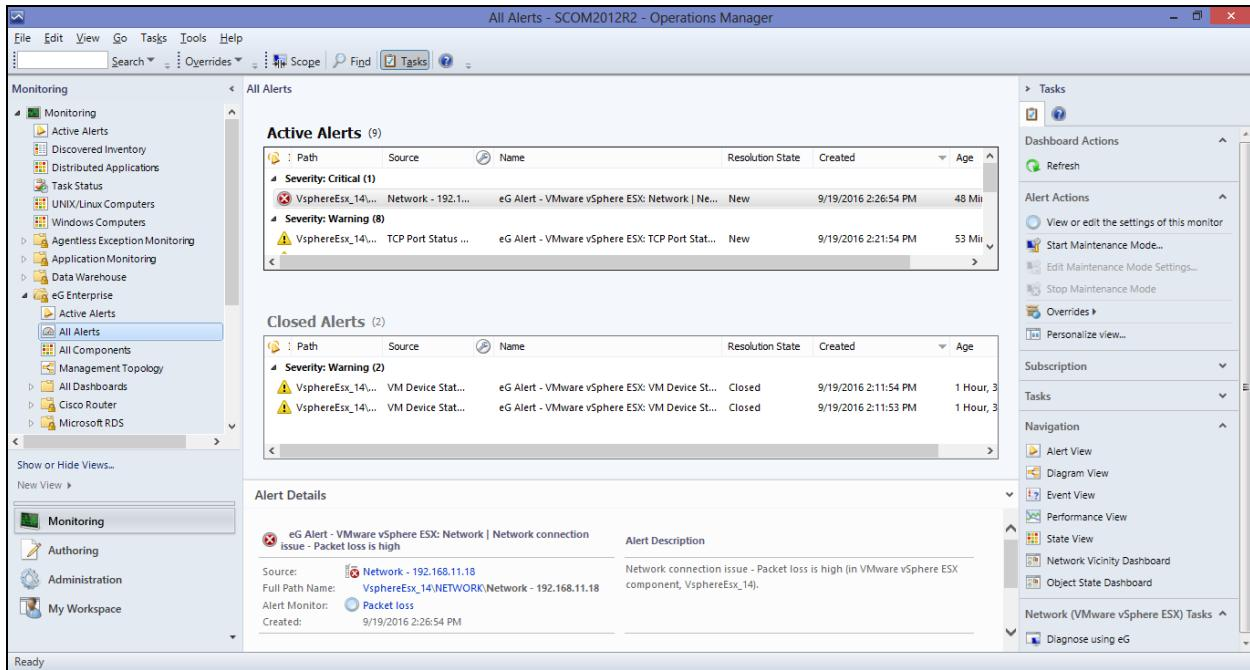

Figure 4.7: The All Alerts view
2. The right dashboard panel will then display all alerts that were raised on the eG-managed components (see Figure 4.7). Here again, the alerts will be grouped by severity. Also, like in the **Active Alerts** view, each alert in the **All Alerts** view will display the alert **Path**, **Source**, **Name**, **Resolution State**, **Created** date/time, and **Age**, by default. If one/more problems were resolved, then the **Resolution State** of such alerts will be **Closed**. **Closed Alerts** will be displayed in a separate section in the alerts view. The **Closed Alerts** section will display alerts on the basis of the following criteria: “*View all alerts with Closed(255) resolution state*”. New alerts will be displayed on the basis of the following criteria: “*View all alerts with New(0) resolution state*”.